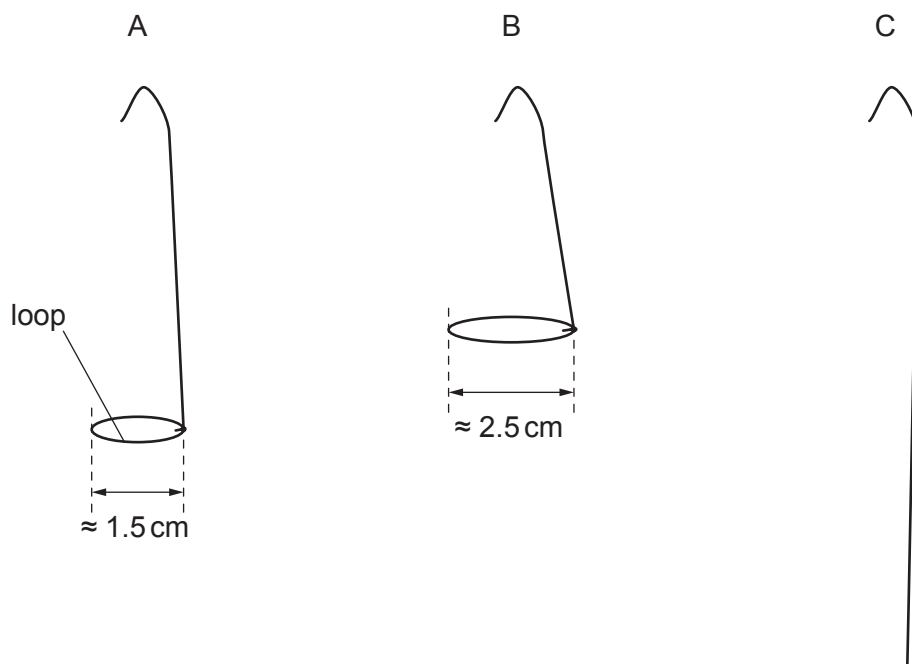

Figure 2.2
- 2 Bend the copper wires into the three hooked shapes shown in Figure 2.2. Do not cut off any of the wire.